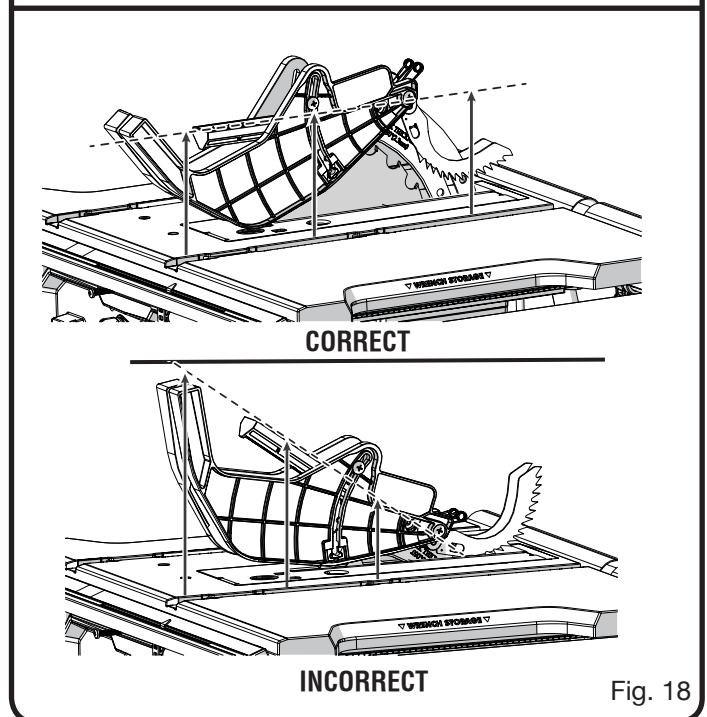

Fig. 18
- With the front of the blade guard raised, lower the back of the guard into the rear hole of the riving knife. Push the front of the guard down until it is **parallel to the table** (see figure 18). If the blade guard is not parallel to the table, the riving knife is not in the “up” position.